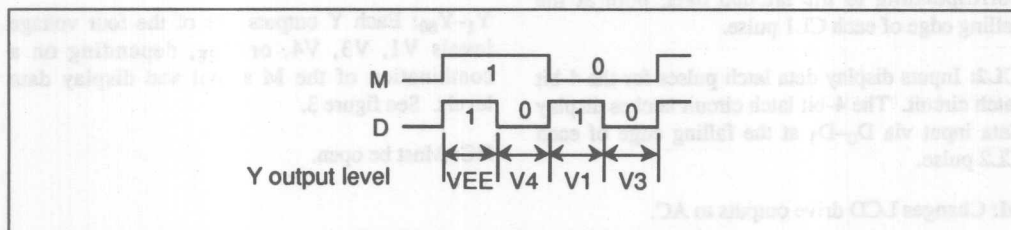

Figure 3 Selection of LCD Drive Output Level
**Y1-Y80:** Each Y outputs one of the four voltage levels V1, V3, V4, or VEE, depending on a combination of the M signal and display data levels. See figure 3.